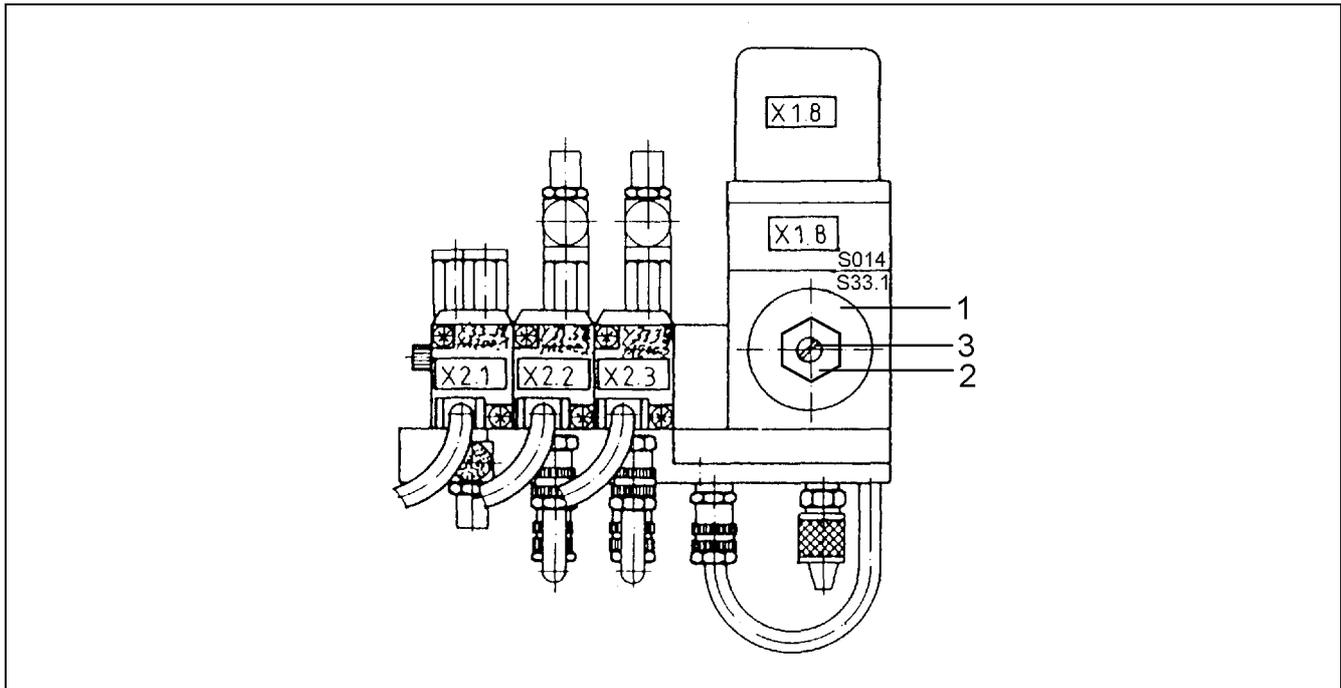

Figure 4: Adjusting the pressure control device
- Remove the UV lamps (fig. 4, pos. 1) and replace them.